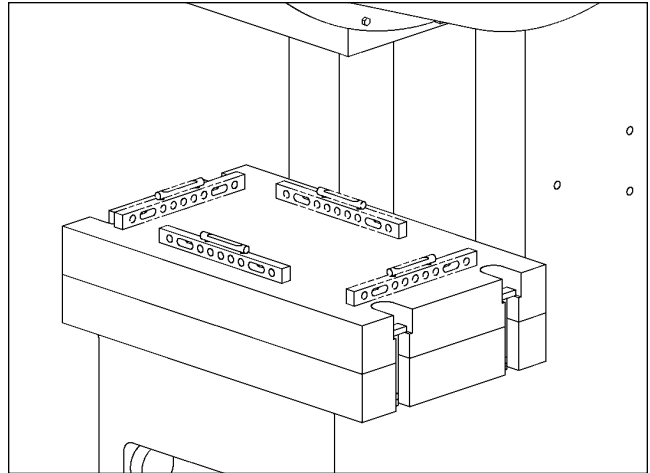

Figure 2C. Leveling the press.
1. Make certain the area of the foundation on which the press is to be mounted is **flat and on the same plane**. This is required in order to make certain that all **four (4) press feet are bearing evenly to avoid twisting the frame**.
5. Position a **precision machinery level** on the top surface of the bed with the length of the level parallel to the front edge of the bed. Take readings at the **front, rear, and on both sides** of the bed or bolster plate. (See Figure 2C.)